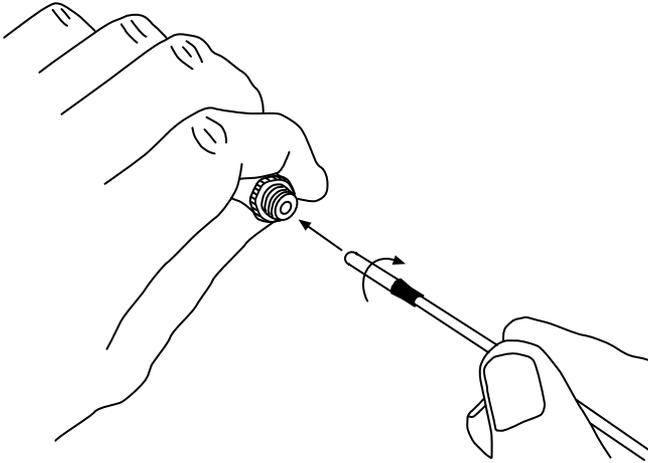

Figure 3-5. Cleaning the connector adapters.
1. Get one of the kit's included cleaning wands (see **Section 2.4**). Insert the wand into the thru-hole of the adapter and twist, as shown in Figure 3-5. Remove and discard the cleaning wand; do not reuse it.